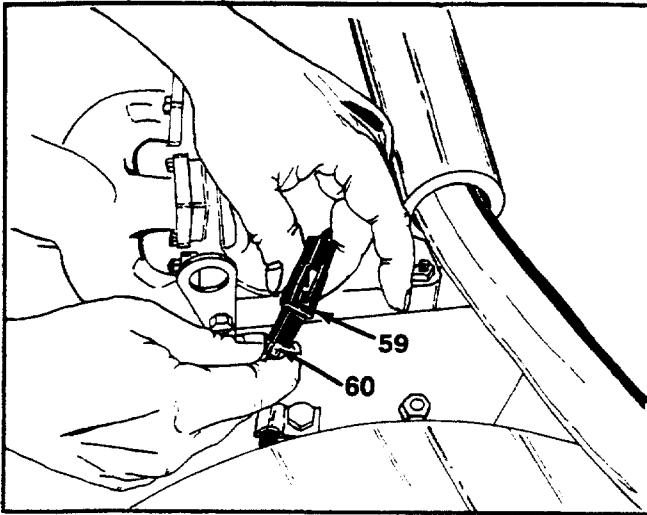

FIGURE 30.
33. Unplug the electric clutch lead from the harness connector. See figure 30.